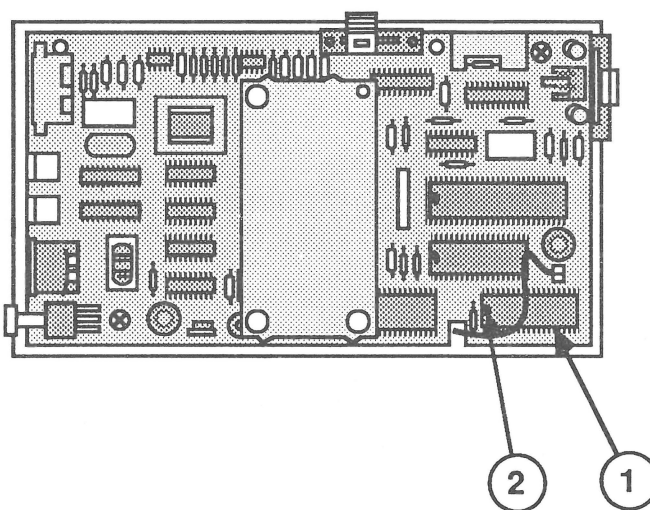

FIGURE 1
1. Locate the AppleFax Modem ROM (Figure 1, #1) on the main logic board at position H7.
3. Position the new ROM on the socket. The notch on the ROM (Figure 1, #2) must be facing toward the center of the main logic board. Press the ROM firmly into the socket.